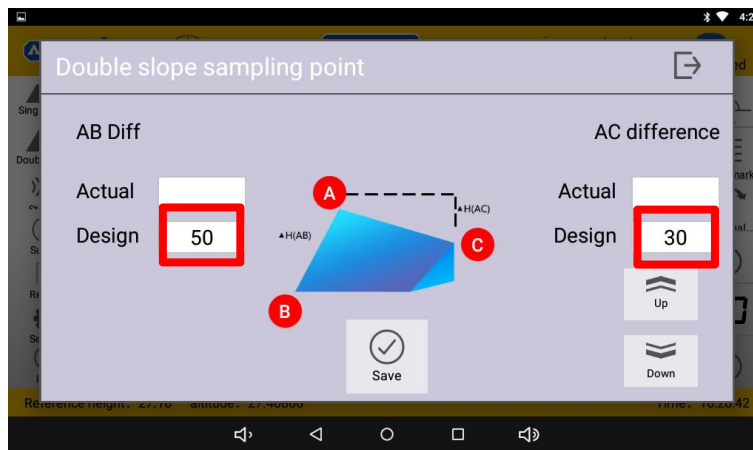

Figure 14
Step2. Enter the height difference between AB and AC in centimeters. A is the highest point, C is the second highest point, and B is the lowest point. Refer to Figure 14 below for the sampling point location.